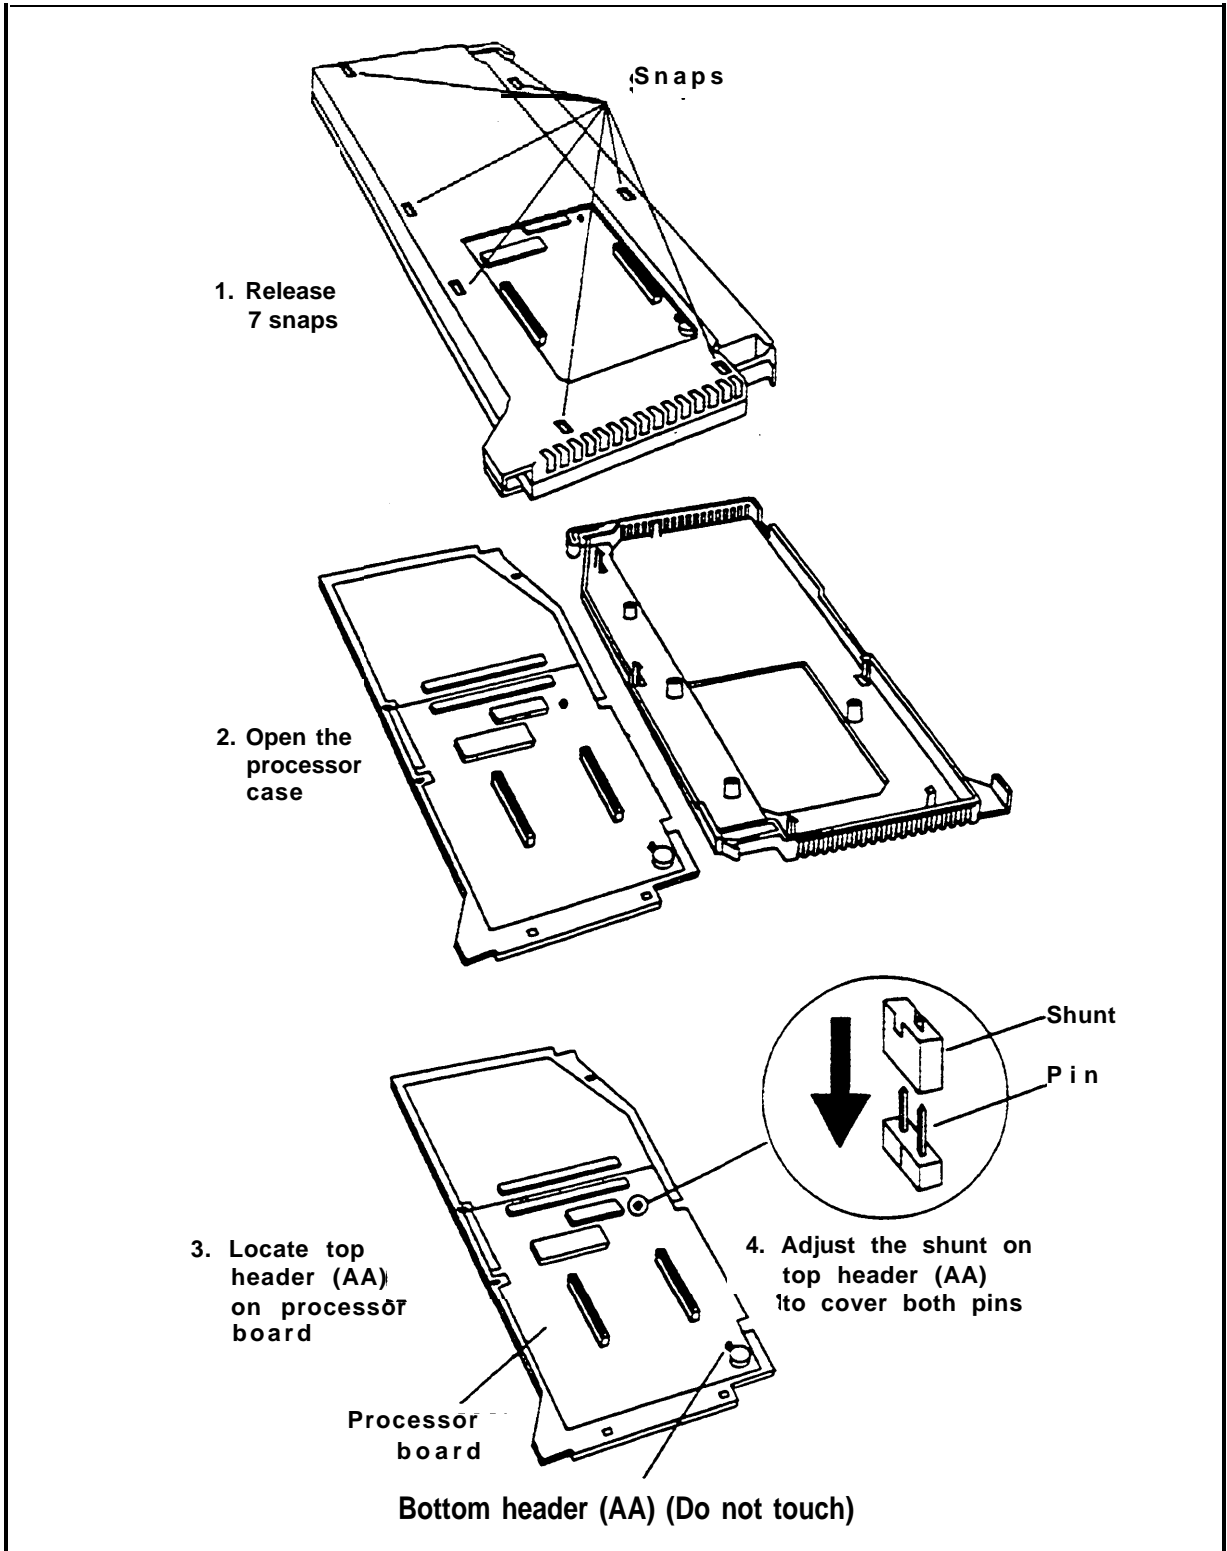

FIGURE 2-21 Modifying the 517A7 Processor Module for square (key) operation.
- 1 Open the Processor Module case by releasing the seven snaps located around the edges of its case (Figure 2-21).